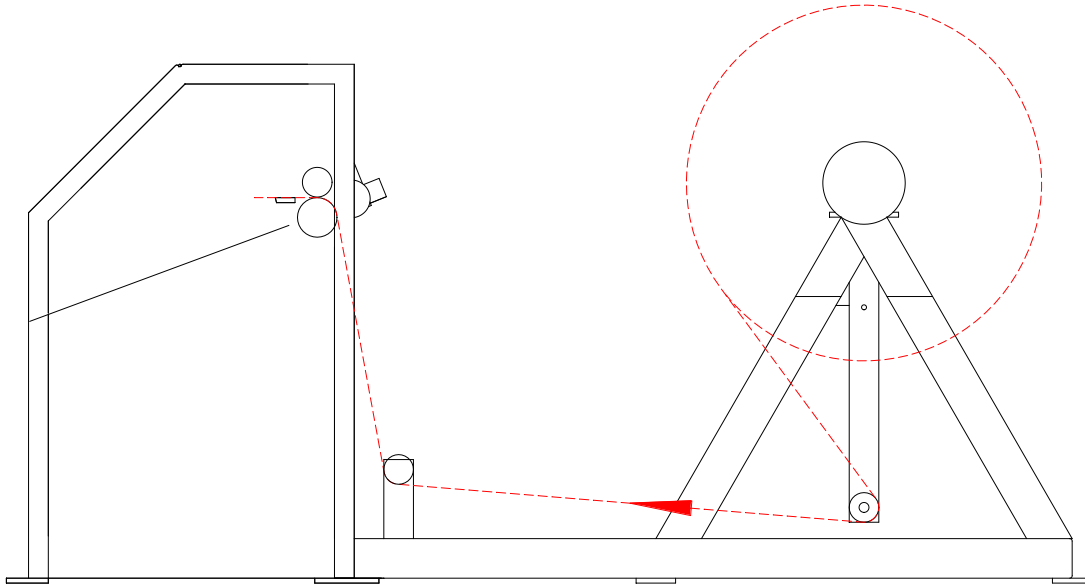

Figure 15: CompuSheeter Side View with Material Thread Up
2. Thread the CompuSheeter as shown in Figure 15.
1. Thread the material web as shown in Figure 15: CompuSheeter Side View with Material Thread Up.